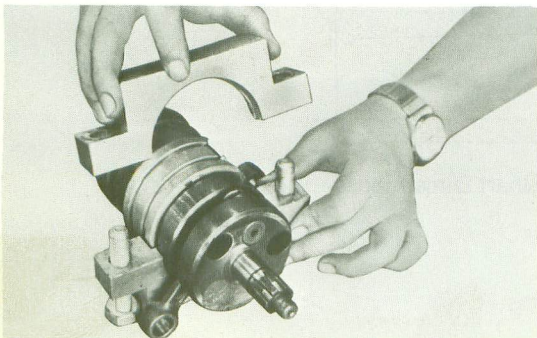

Fig. 4-17-5
- (1) Insert the tool (1) into the gap between the crank wheel and the crank cover. (Fig. 4-17-5)
- Then install the tool (2) in the same manner as above on the other half of the crankshaft.